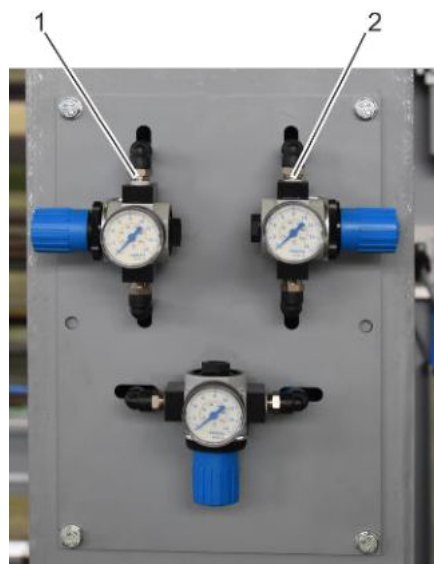

Fig. 45: Pressure regulators
9. Adjust the contact pressure of the welding roller with the left pressure regulator (Fig. 45/1), the contact pressure of the contact roller with the right pressure regulator (Fig. 45/2) between 2.5 and 4 bar (29 and 58 psi) depending on the thickness of the circumferential wire.